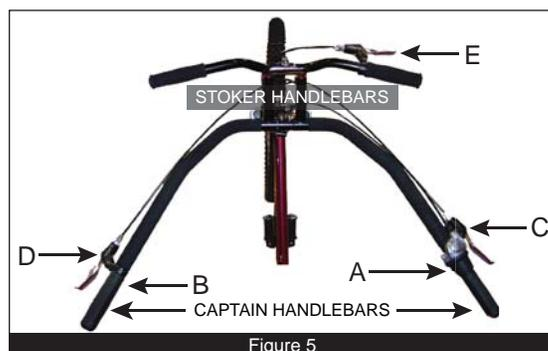
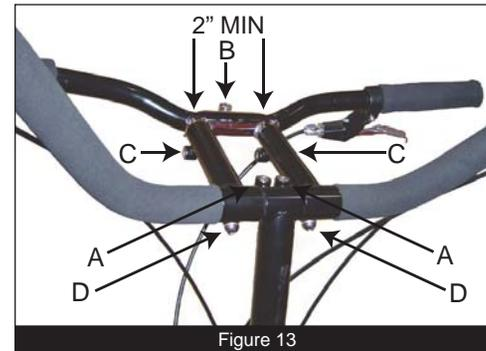
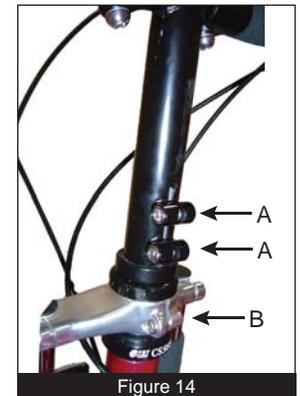

Figure 5
Figure 13
Figure 14
Start with the captain riding alone. Straddle the top tube (the tube from the rear seat to the fork column, **Figure 2**) with one foot on the ground, the other foot on a pedal at the 2 o'clock position. Hold the captain's handlebar (**Figure 5**) firmly. Push off with the foot on the ground
The Buddy Bike has a much shorter wheelbase than conventional tandems and it is unique in that both sets of handlebars (**Figure 5**) turn as the bicycle is steered. The captain leans into the direction of the turn, moves the handlebars to turn and, as he/she does so, the stoker's handlebars will move in the same direction. The stoker should balance in the same direction. Whenever possible, the captain should tell the stoker when a turn is about to be made. Again, communication between captain and stoker is essential to the safety of both.
First, be aware that the right side of a bicycle is the side to your right as you sit on the seat. That's the side the chainwheel is on. **Figure 5** was taken from riders' point of view. The brake lever on the left side of the captain's handlebar is for the front brake (D in **Figure 5**). The brake lever on the right side of the captain's handlebar is for the rear brake (C in **Figure 5**). The brake lever on the right stoker's handlebar is for the additional brake which is a hub brake on some versions of Buddy Bike Family or a standard brake caliper on the rear wheel of Buddy Bike Sport (E in **Figure 5**). The stoker's brake provides additional braking power and a sense of control for the stoker but it will not stop the bike if used alone.
The captain's handlebar shown in **Figure 5** is the longest bar on the Buddy Bike. Loosen clamp bolts (A in **Figure 13**) with
**CAUTION:** The handlebar stem supports both captain and stoker handlebars. The stem is held by two clamp bolts (A in **Figure 14**). The stem must always be in the position shown in **Figure 14**, all the way down to the fork bearing locknut (B in **Figure 14**). **Do not loosen these bolts to raise the handlebars. Handlebar height can only be adjusted as shown above.**
The stoker's handlebar (**Figure 5**), is adjustable to three different positions, tilt, up or down, and distance from the stoker's seat. For your stoker's safety, please do not rotate the handlebars to closer than a 90 degree angle.
**Tilt:** Loosen clamp bolt (B in **Figure 13**) with a 6-mm Allen wrench, and rotate the handlebar until the stoker can reach it without strain and with ease. Tighten this bolt to 150—225 inch/pounds.
Loosen clamp bolts (C in **Figure 13**) with a 6-mm Allen wrench and move the stoker's handlebar closer to or away from the stoker's seat until it can be reached in comfort. Tighten these bolts to a torque of 150—225 inch/pounds.
**CAUTION:** For safety keep at least 2 inches of the stoker's handlebar stem **INSIDE** the handlebar tubes as shown in **Figure 13**.
Loosen clamp bolts (D in **Figure 13**) with a 6-mm Allen wrench and rotate the stoker's handlebar to move it up or down to suit the stoker's arm length. Tighten these bolts to 150—225 inch/pounds.
**CAUTION:** Before your first ride and every four to six months thereafter (depending on ride frequency), stand in front of the Buddy Bike, hold the front wheel between your knees, grasp the captain's handlebar and rotate it firmly from side to side. If the handlebar moves but the wheel does not, retighten the clamp bolts (A in **Figure 13**) with a 6-mm Allen wrench to a torque of 180—250 inch/pounds. These two handlebar stem bolts (A in **Figure 14**) hold both stoker and captain handlebars securely on the fork steerer tube.